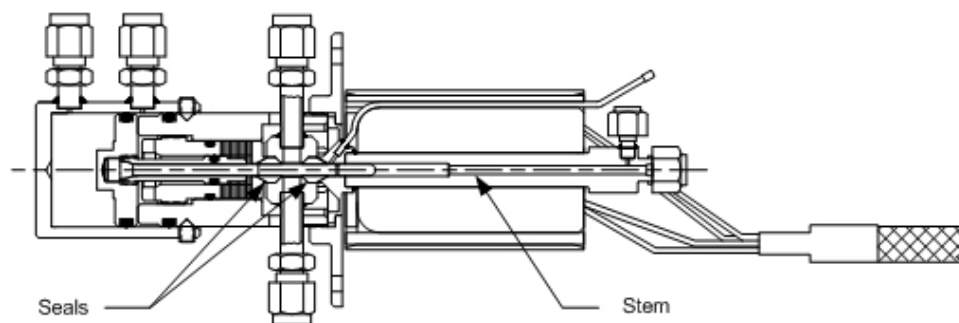

Fig. 8.11. Liquid Sample Valve
8.5.1 Liquid sample valve (see Figure 8.11)